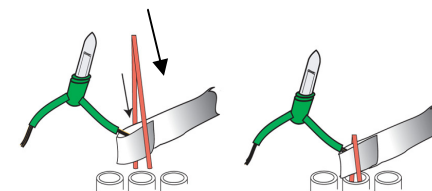

Figure 6
10. Put a bulb lead in the fold created by bending over 1 cm (~½") of the foil wire coming from (A). See figure 6 & 7. Bend the end of the wire lead over the bottom edge of the foil to hold the wire in place.
11. Place each end of a folded coffee stirrer straw on either side of the foil wire, close to the fold. Press the straw down firmly into a hole in the base at (F).
12. Repeat steps 10 & 11 for the second lead, but use a 15cm (6") section of foil wire. Secure and anchor the connection by using another folded coffee straw section into a hole at (E). See figure 6 and 7.